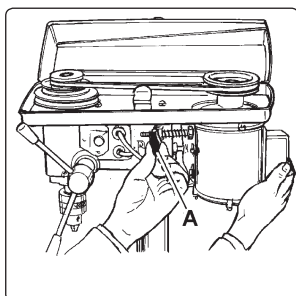

Fig.4
6.3.1. Open the pulley cover and loosen the belt tension lock screw (fig.4.A).
6.4.1. With the belt tension lock screw (fig.4.A) loosened the motor plate spring will automatically give the correct belt tension (belt give of approx. 13mm under finger pressure). Tighten lock screw and close pulley cover.